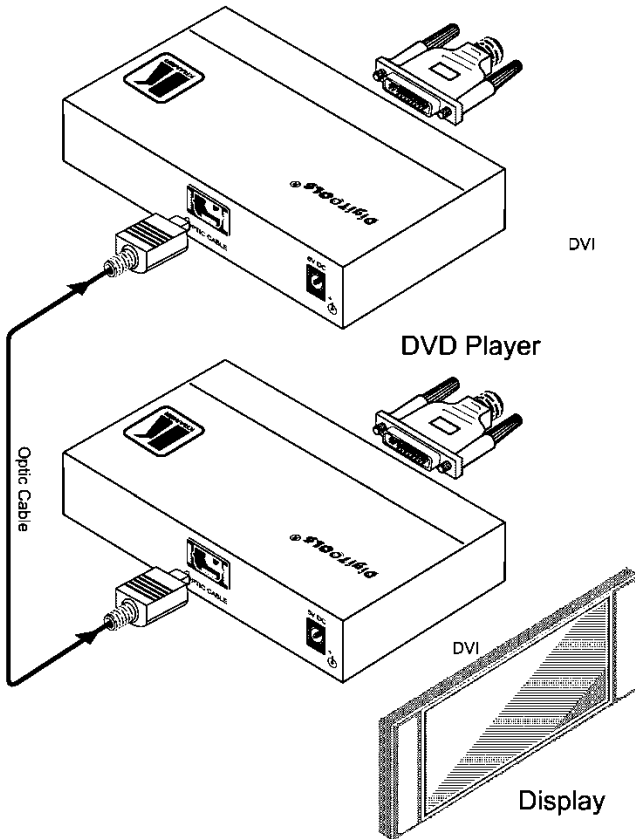

Figure 3: Connecting the 671T/671R Transmitter/Receiver System
To connect the **671T** and **671R**, as illustrated in the example in Figure 3, do the following:
4. Connect the 5V DC power adapter to the power socket on each unit and connect the adapter to the mains electricity (not shown in Figure 3).